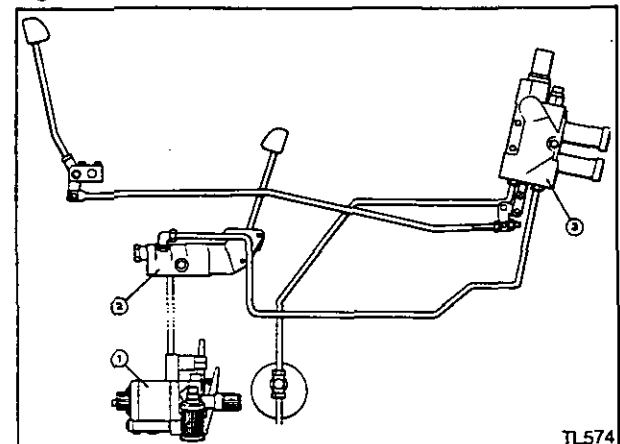

Figure 15
3. Figure 15. Oil from the linkage pump (1) via a selector valve (2) and spool valves (3) – single or double acting cylinders. The lower links will be locked when the Selector Valve is moved to the external position.